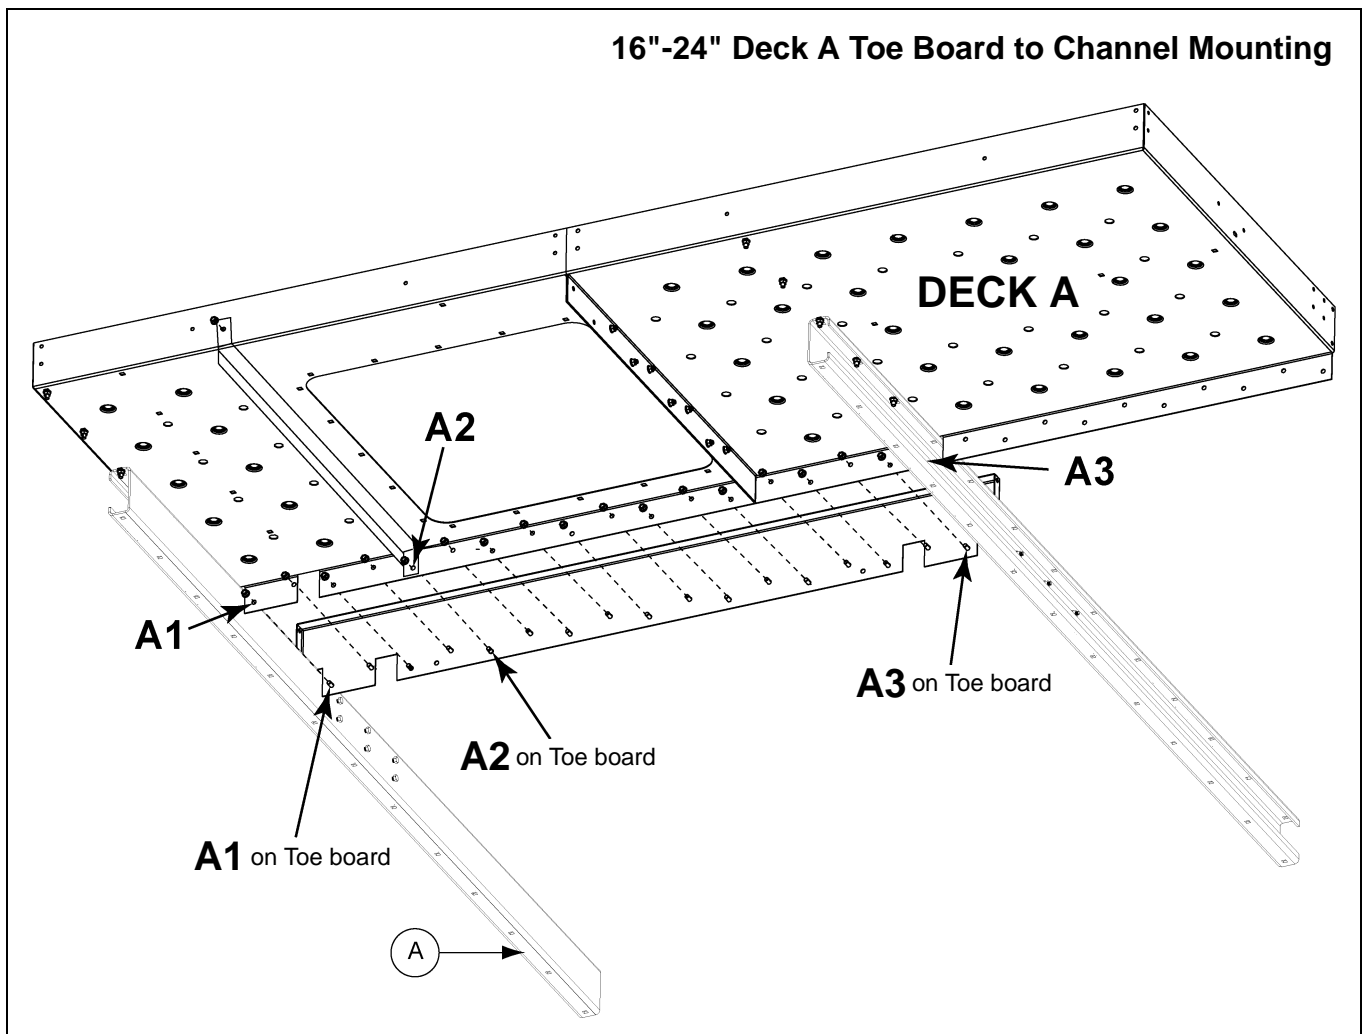

Figure 8B Deck A Toe Board Channel Location
3. Using a punch as needed for alignment, connect Deck A to the side toe board with 3/8" flange nuts (S-10028) and 3/8" x 3/4" flange bolts (S-7105). *(See Figure 8B.)*